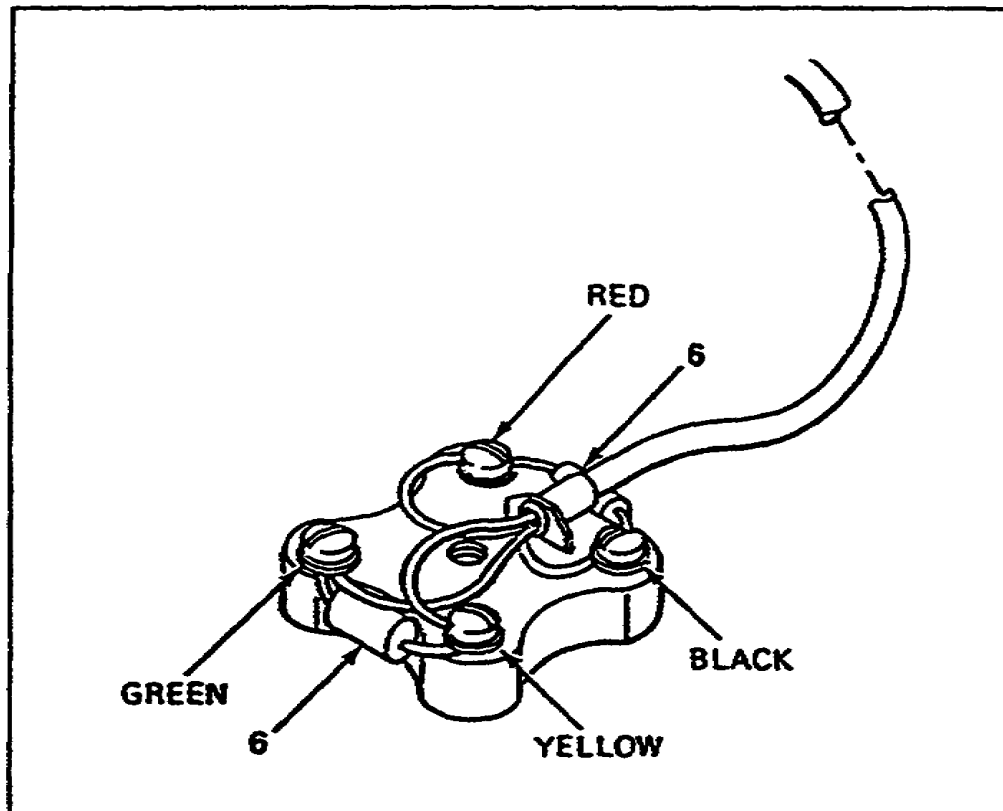

Figure 1-4. Resistor connection.
19. Preinstallation checks. Set the LB/CB and MODE switch to the proper position. For our use, we will install a telephone for point-to-point operation. Install the batteries in the telephone as discussed in paragraph 16, then place the LB/CB switch in the LB position. The MODE switch is placed in the AC SUPERVISION position. Now, if you pick up the handset, little or no sidetone can be heard in the receiver when you speak into the microphone. When you press each key on the keysender pad, there is little or no tone heard in the receiver. Switch the LB/CB switch to point-to-point. Speak into the microphone and a tone should be heard. If you press each key on the keysender pad, you will hear a tone that is lower than the previous one. Place the handset on the cradle. Using a flat-tip screwdriver, connect a resistor 1000 ohms between the red and black terminals on the connector block and another to the green and yellow terminals (See Figure 1-4.)